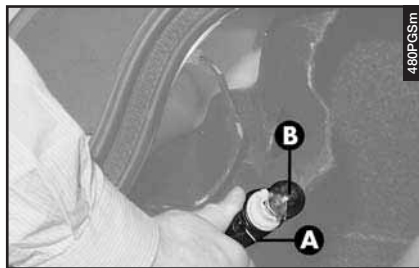

fig. 59
DIRECTION INDICATORS AND SIDE LIGHTS/STOP LIGHTS (fig. 59)
- Remove the bulb holder (**A**-fig. 59) turning counter-clockwise.